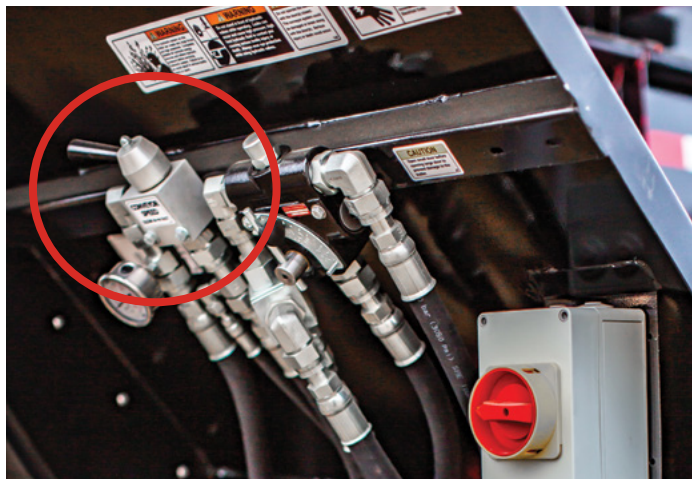

Figure 9 Rear PTO/Electric Controls
4. To operate the conveyor, slowly move the needle valve handle located on the rear tail fin until the desired speed is obtained (Figure 9).